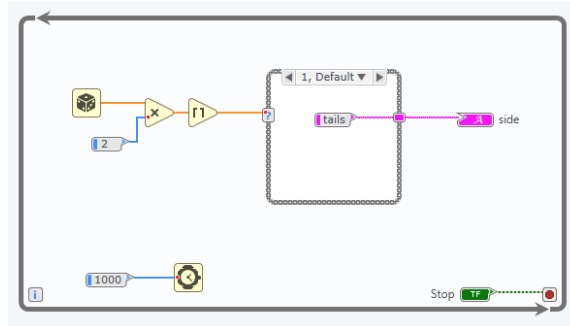

Figure 1.27: Final code
- Change the value of numeric constant to the 1000 (1000 milliseconds) and connect it to the “wait”. The Code is ready! (Fig. 1.27). Click the panel tab and run the program.